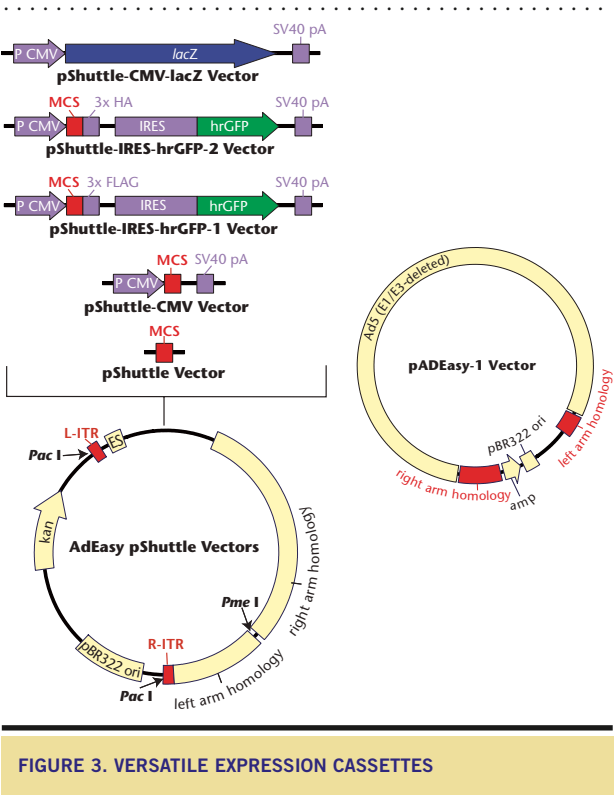

FIGURE 3. VERSATILE EXPRESSION CASSETTES
The AdEasy system offers flexibility in the pShuttle cloning vector. The basic pShuttle vector contains all of the regions of homology required to recombine with the adenoviral backbone. The pShuttle-CMV vector has the same regions of homology but also has the high-level constitutive CMV promoter and the SV40 poly(A) tail. We also offer pShuttle-CMV vectors with the Vitality® hrGFP-reporter (Figure 3).